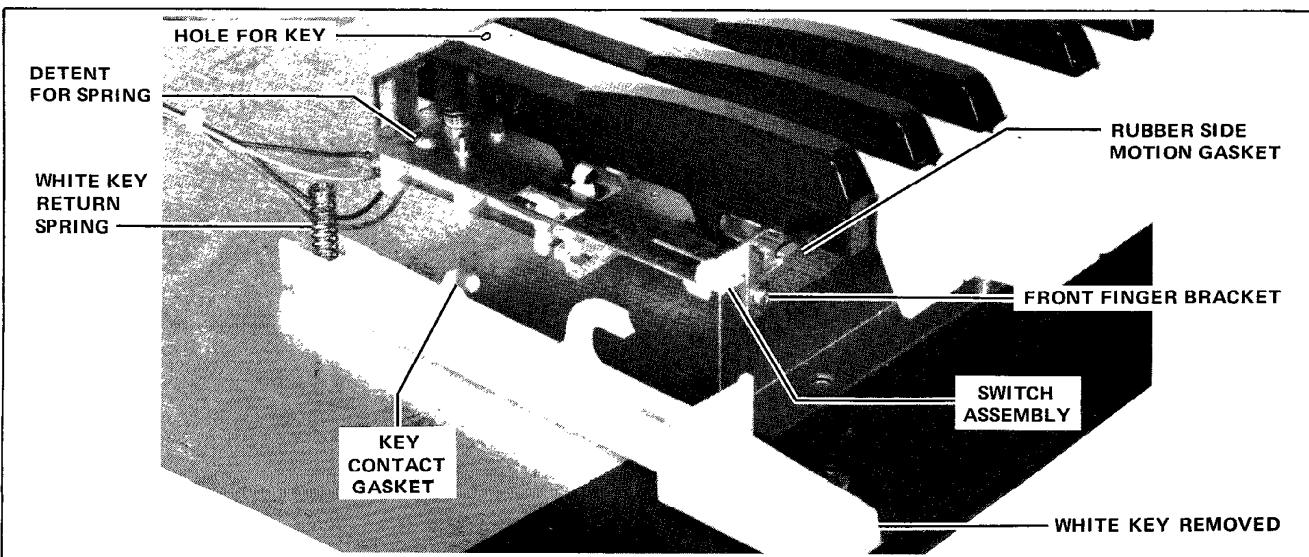

FIGURE 3-3 KEYBOARD
3.1.4 KEY REMOVAL (Figure 3-3)
3.1.5 KEYBOARD SWITCH REMOVAL (Figure 3-3)
3.1.6 SIDE MOTION AND KEY CONTACT GASKETS (Figure 3-3)